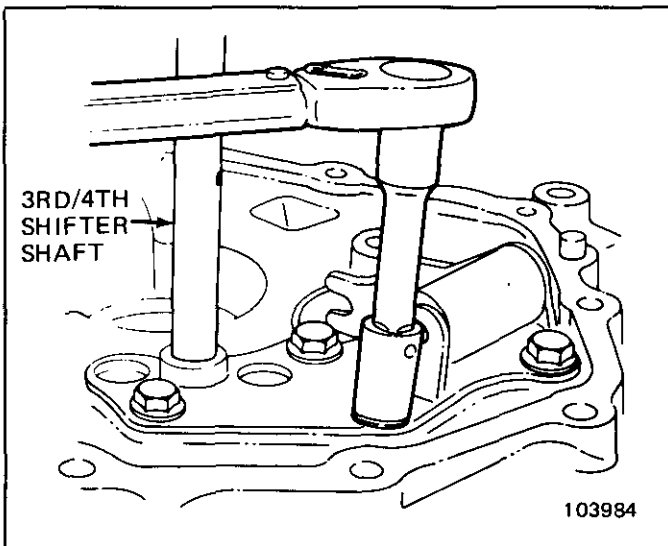

Figure 43 Reverse Shift Bracket
4. Install the reverse shift bracket on the clutch housing. Use 3rd/4th shift rod to align bracket to housing. Install retaining bolts and torque to specification. Make sure rod operates smoothly after installation (Figure 43).